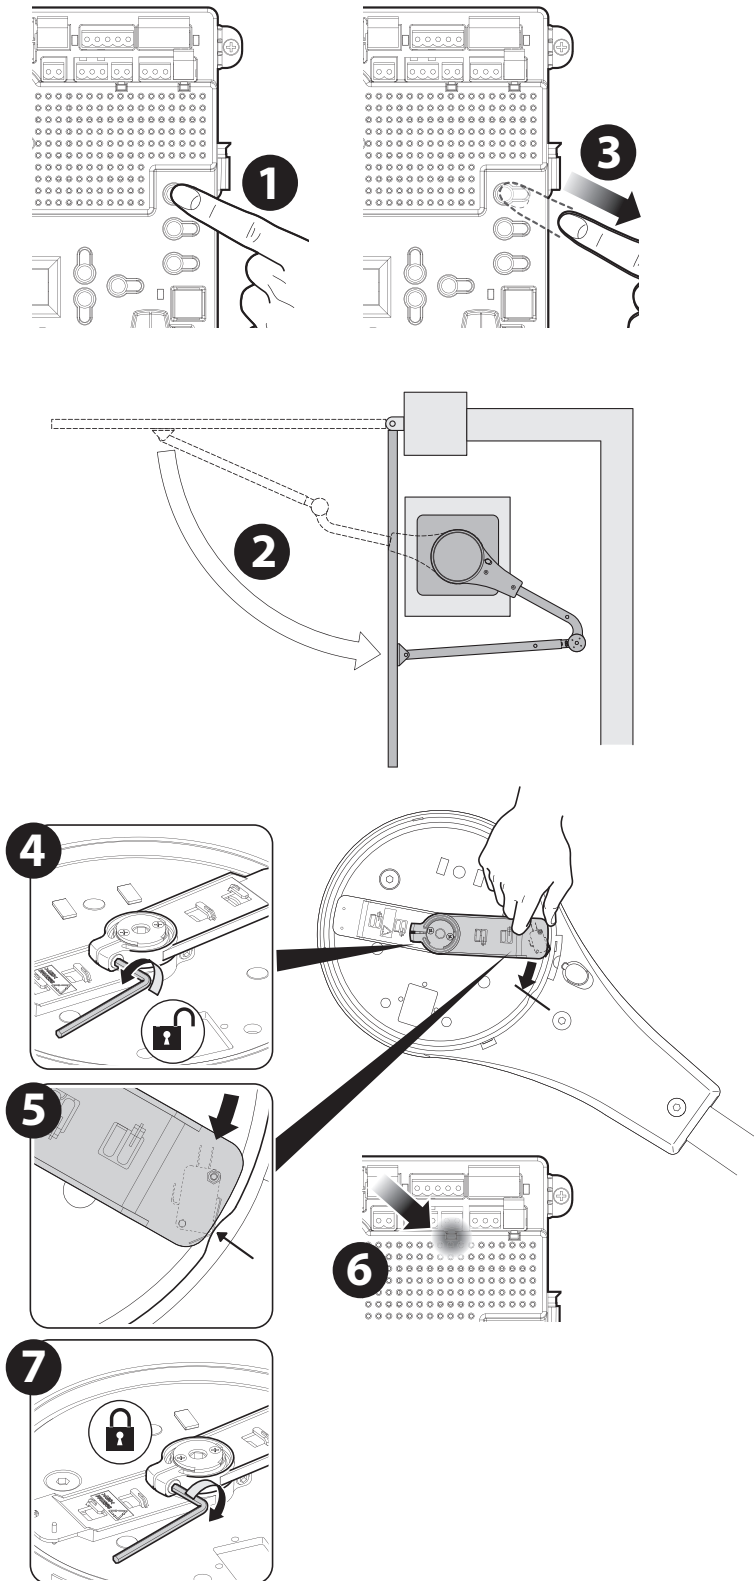

Figure 12
- Using the OPEN button on the front of the Control Board, hold the button down until the gate reaches the fully intended open position (see figure 12 steps 1-2-3). Once the gate is in the full open position the OPEN limit switch must be set. Use an allen wrench to loosen the set screw that keeps the OPEN limit switch arm in place and adjust it until the GREEN light illuminates on the front of the control board (Figure 12 steps 4-5-6). When done, to hold the limit switch arm firmly in place tighten the set screw (Figure 12 step 7).